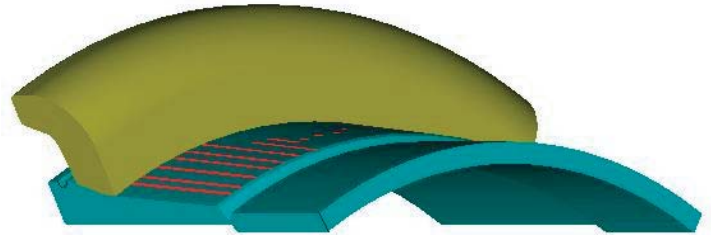

FIGURE 3
- Entire 5 degree area of the rim or wheel back section where the tire bead will contact during the seating procedure (See Figure 3).